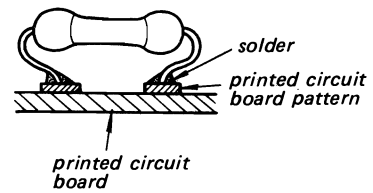

Fig. 5
- Use lead type resistors to replace the MELF components. This replacement may be mounted with short leads (see Fig. 5).